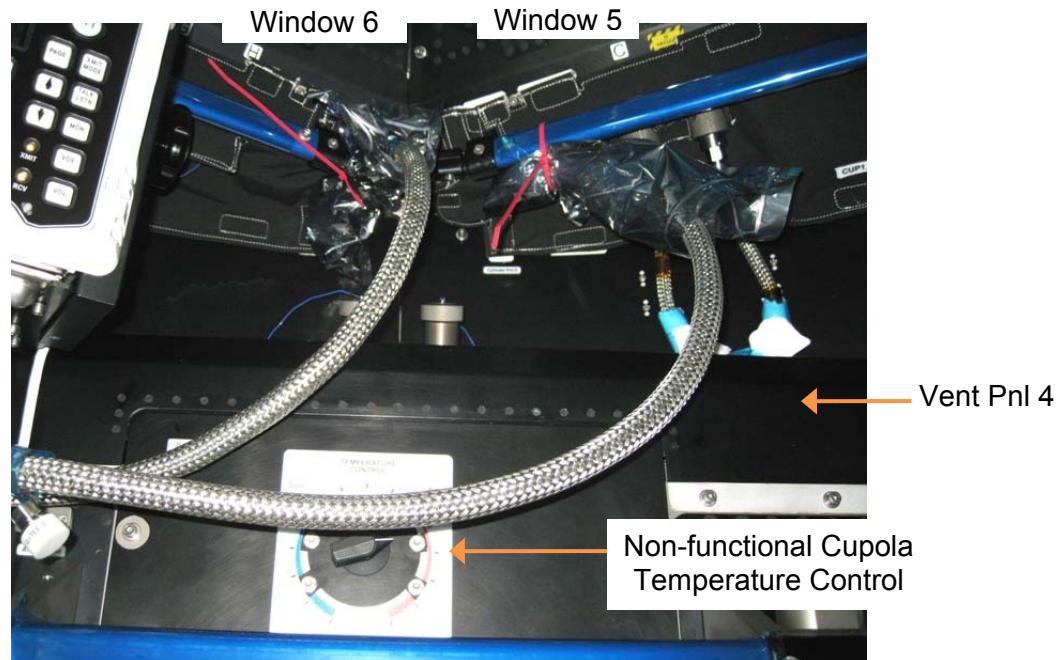

Figure 14.- Non-functional Cupola Temperature Control (CUP1A1).
6.1 Using Gray Tape, Sharpie, apply label adjacent to Cupola Temperature Control that reads “Non-functional. To adjust Cupola temperature, use control on panel NOD3D2-34.” Refer to Figure 14.